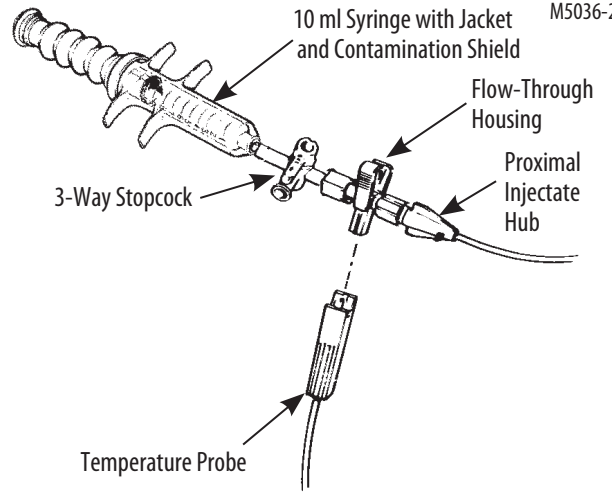

Figure 4. Temperature Probe and Flow-Through Housing
2. Insert the reusable injectate temperature probe into the flow-through housing (Figure 4). Secure the system to minimize movement with respect to the patient.
To Remove Flow-Through Temperature Probe (Figure 4)